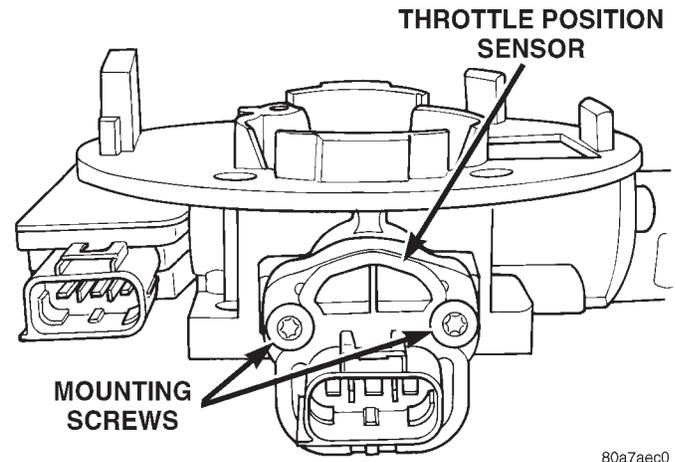

Fig. 67 TPS Mounting Bolts—5.2L/5.9L Engines—Typical
- Remove two TPS mounting bolts (Fig. 67).